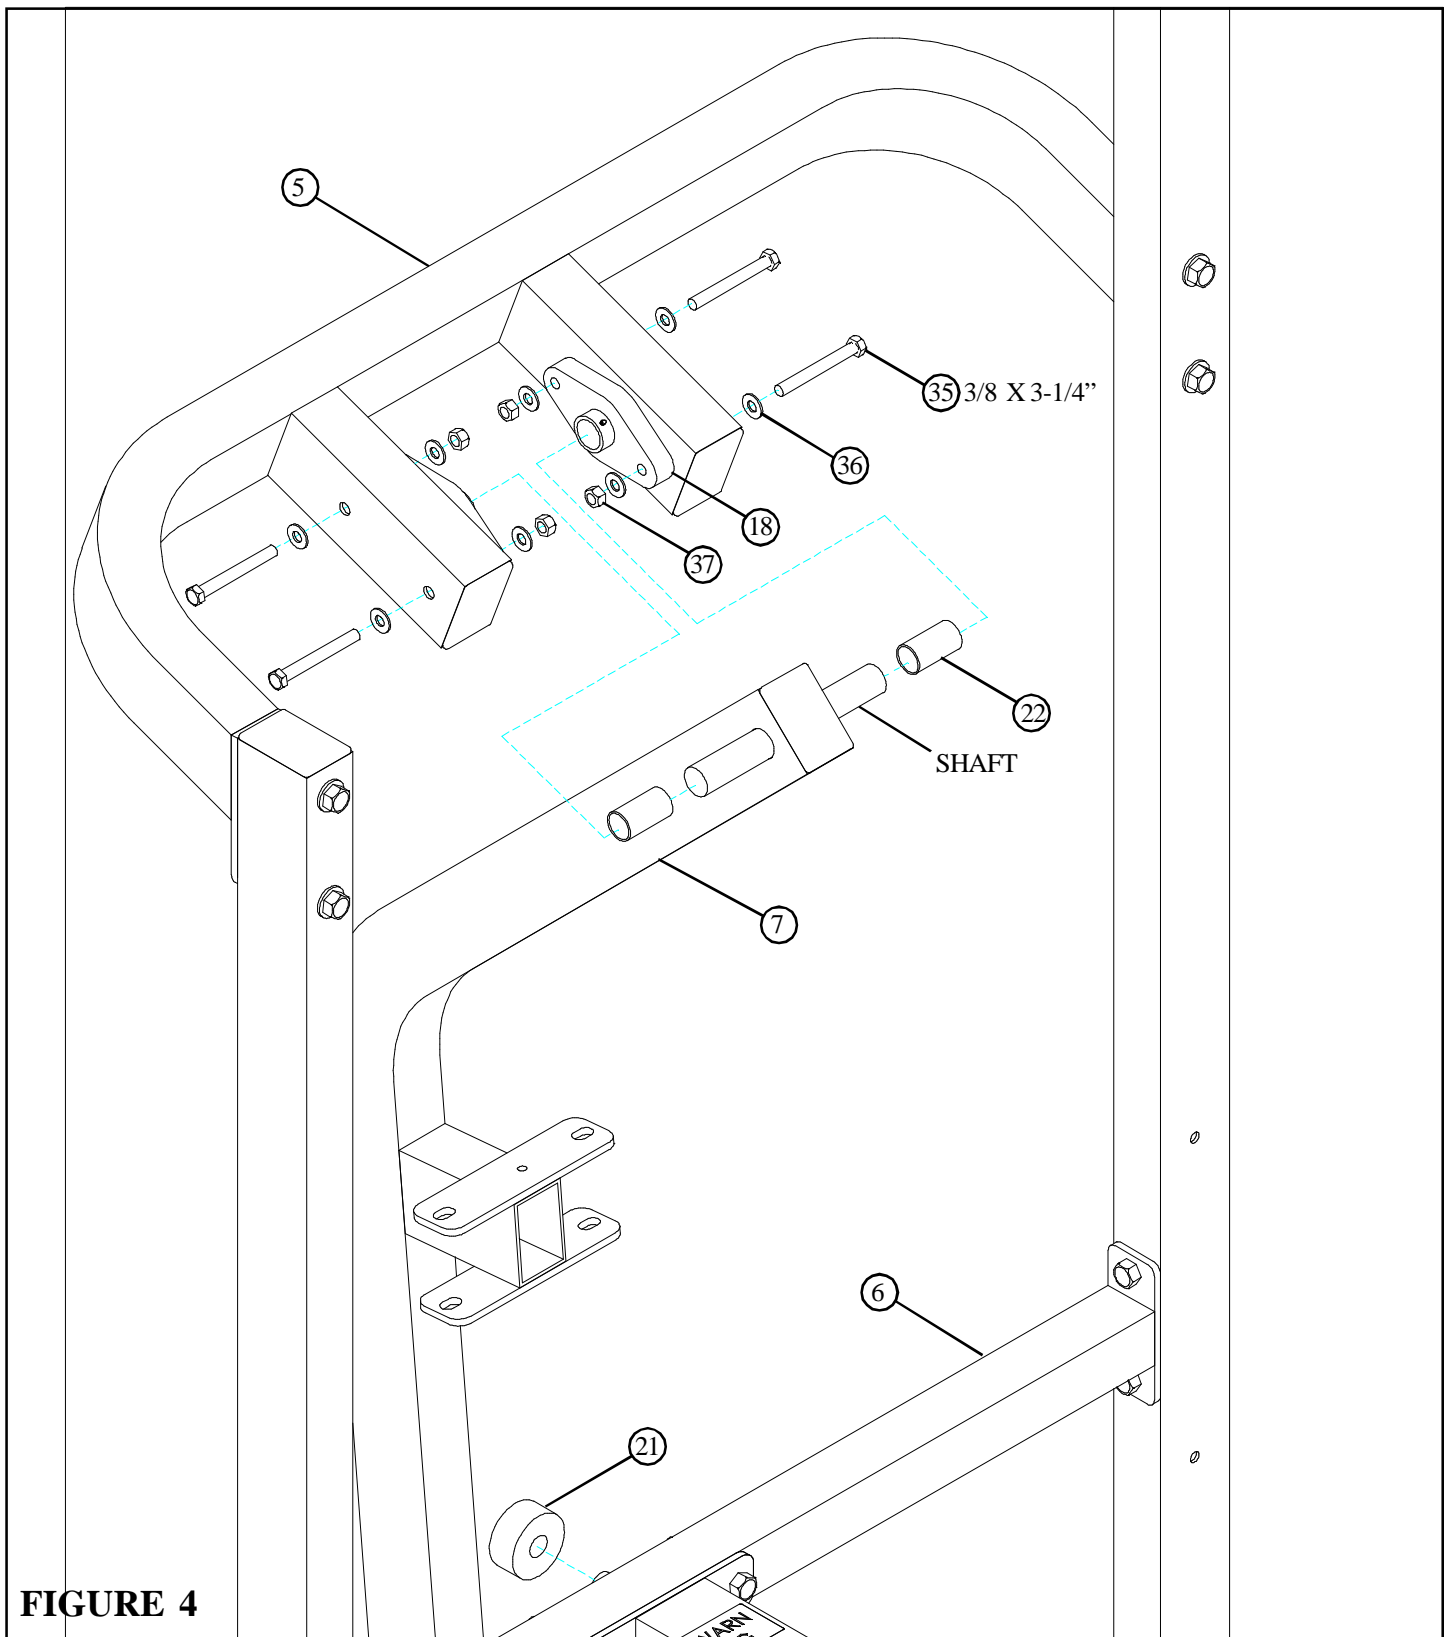

**FIGURE 3**
- **LOOSELY** assemble the PIVOT FRAME (6) to the TOWER (1) using four 1/2 X 4" BOLTS (39), four 1/2" WASHERS (40) and three 1/2" LOCK NUTS (41) as shown in FIGURE 3.
- **LOOSELY** assemble the UPPER CROSS SUPPORT (5) to the PIVOT FRAME (6) using two 1/2 X 4" BOLTS (39), two 1/2" WASHERS (40), and one 1/2" LOCK NUT (41) while **LOOSELY** assembling the UPPER CROSS SUPPORT (5) to the TOWER (1) using two 1/2 X 3" BOLTS (38), two 1/2" WASHERS (40), and one 1/2" LOCK NUT (41) as shown in FIGURE 3.
1. LOWER CROSS SUPPORT (4) to the TOWER (1) and FRAME (2).
2. PIVOT FRAME (6) to the TOWER (1) and FRAME (2).
3. UPPER CROSS SUPPORT (5) to the TOWER (1) and PIVOT FRAME (6).